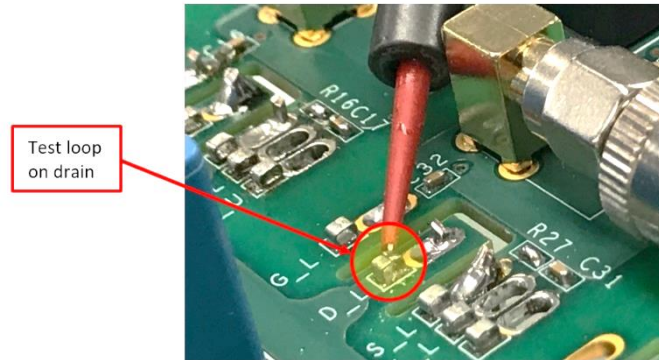

Figure 12. Test Point on the drain (TO-247-4 footprint)
Cree's KIT-CRD-3DD065P/CRD-3DD12P, Buck-Boost Evaluation Kit comes with many test points (as shown in Figure 11 (a) and Figure 11(b)) to make it convenient for users to capture critical waveforms such as drain to source voltage (VDS), gate to source voltage (VGS), and drain current (ID). It is critical to take these measurements as close as possible to the device pins. On the bottom side of the evaluation kit's PCB board, there is a test loop placed right next to the device pins for both TO-247-3 or TO-247-4 footprints (as shown in Figure 12). The test loop makes it convenient for the users to attach the clip-on probes to the PCB board.